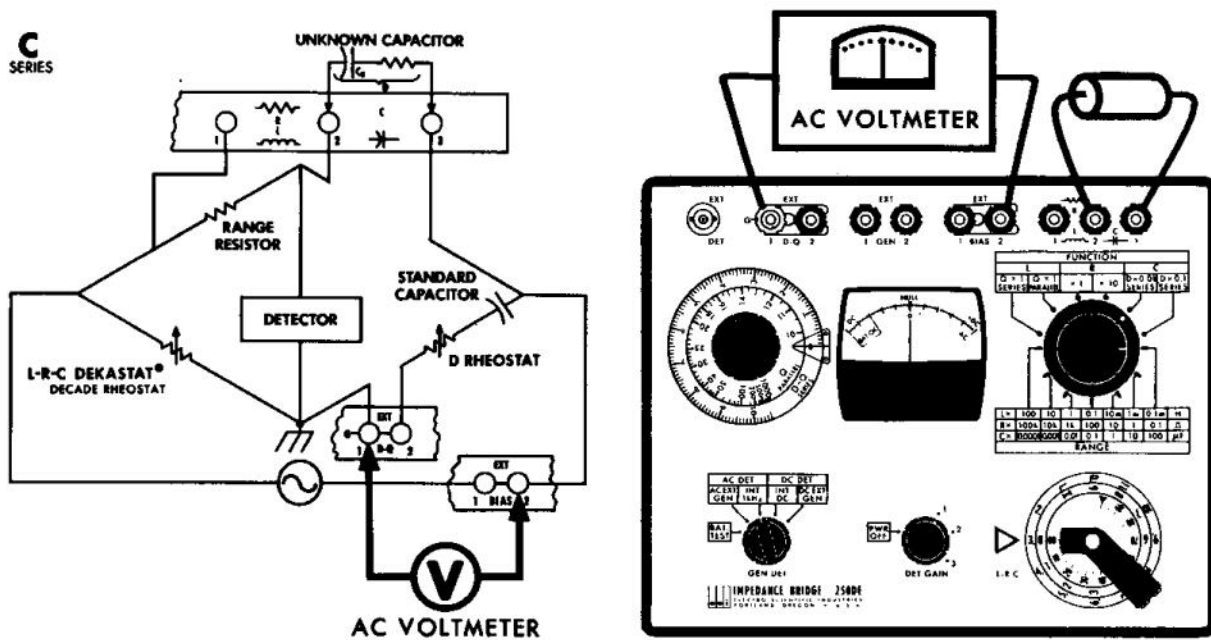

Figure 4-6. Voltage Across Unknown Capacitor
1. Connect grounded terminal of ac voltmeter to EXT D-Q terminal 1 and other terminal of the voltmeter to EXT BIAS terminal 2 (see Figure 4-6).